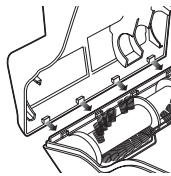

Fig. 27
- 3 To reassemble, insert the tabs on the front edge of the brushroll housing into the matching holes in the top half and tilt it back down until it clicks into place. **(Fig. 27)**